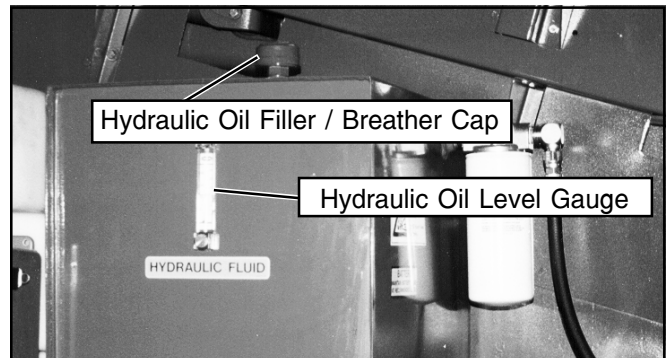

Figure 14: Hydraulic Oil Tank
1. Open left turret cover and check oil level at sight gauge with the boom stowed and retracted. Engine running or stopped. (See Figure 14)